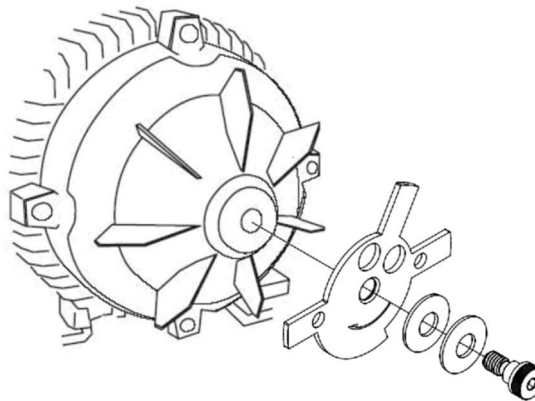

Figure 4a: Speed Wheel Installation (Option 1)
Option 1: Using a 3/16" hex key, the 3/8" shoulder bolt, and the (2) 3/8" x 1" disc spring washers, install the speed wheel as shown in Figure 4a below. Make sure that the arrow on the speed wheel points in the motor's intended direction of rotation.